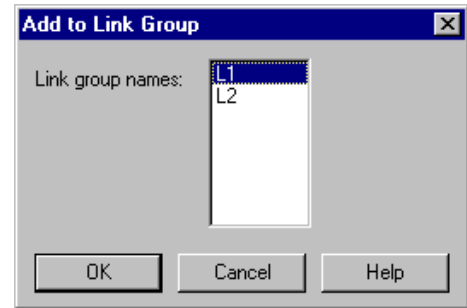

Figure 15 – Add to Link Group Dialog
3. The Add to Link group dialog appears, as shown in figure 15. It lists only the link groups that contain a processor identical to the one in the selected block.